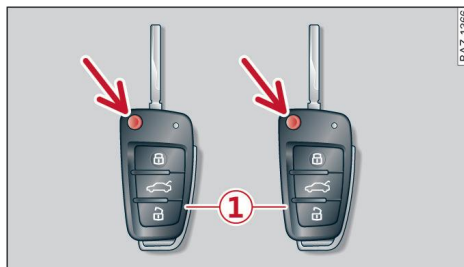

Fig. 24 Keys supplied with the vehicle
- Fold open the vehicle key ⇒ *page 37, Fig. 24*.
The vehicle key can be used to lock and unlock the car. Press the release button ⇒ Fig. 24 to make the key spring out of the handle.
⇒ *page 37, Fig. 24*.